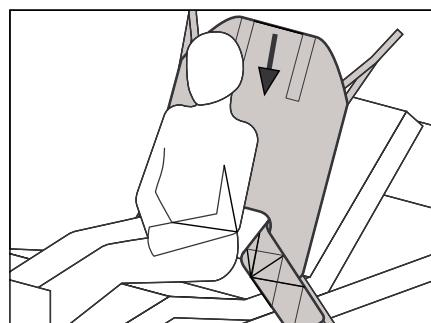

Figure 3
- 3. Sit the client back against the sling. **Figure 3.**